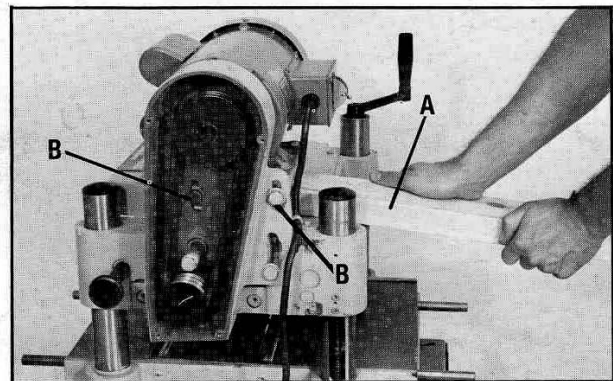

Fig. 46
3. Place a 2 x 4 (A) Fig. 46, underneath the motor plate, as shown.
4. Loosen two bolts (B) Fig. 46, and pry up on the motor plate until correct belt tension is obtained. Correct tension is obtained when there is approximately 1/4" deflection in the center span of the belts using light finger pressure. Then tighten two bolts (B) Fig. 46, and replace side cover.